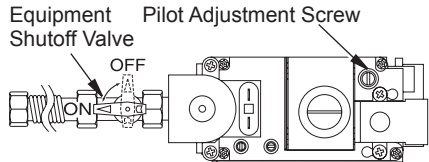

Figure 42 - Turning Equipment Shutoff Valve to the OFF Position
5. Turn equipment shutoff valve clockwise  to the OFF position (see Figure 42).
- Turn the adjustment screw marked PILOT clockwise to decrease or counterclockwise to increase the flame to proper size (see Figure 42, page 28). Do not remove the adjustment screw.